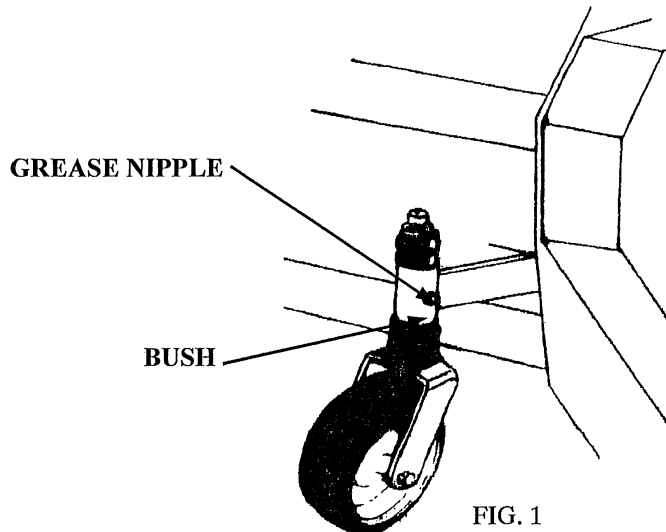

FIG. 1
- Grease the bushes of the support arms for both wheels (see fig. 1) after cleaning the grease nipples correctly for better lubrication. Use lithium type grease NLGI2.